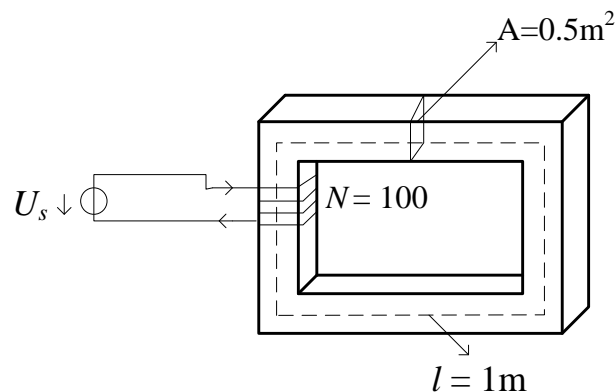
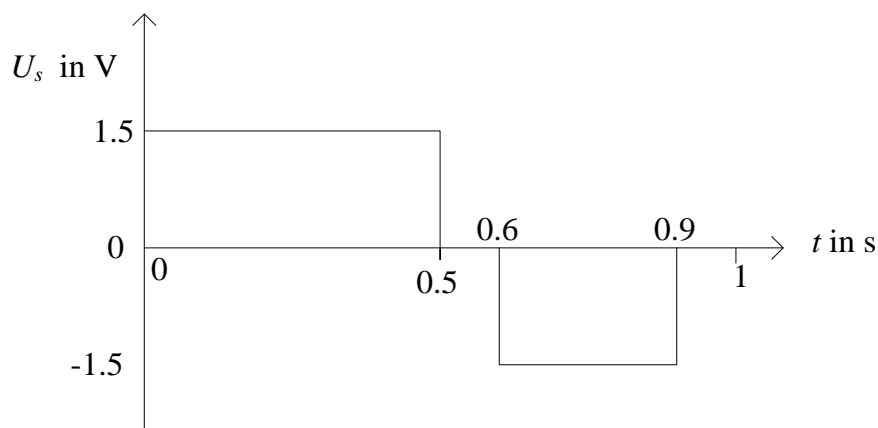

Figure 1.1 Magnetic circuit
Figure 1.2 Input voltage waveform
- 1.1** For the magnetic circuit shown in Figure 1.1, draw the waveforms of the flux ϕ in the core, flux density B and current i in the winding, for the duration from 0 to 1 s. The voltage $u_s(t)$ is given and has a waveform as shown in Figure 1.2. The magnetization curve for the core material is shown in Figure 1.3. As shown, the magnetization curve is broken down into three piecewise linear regions with different slopes.